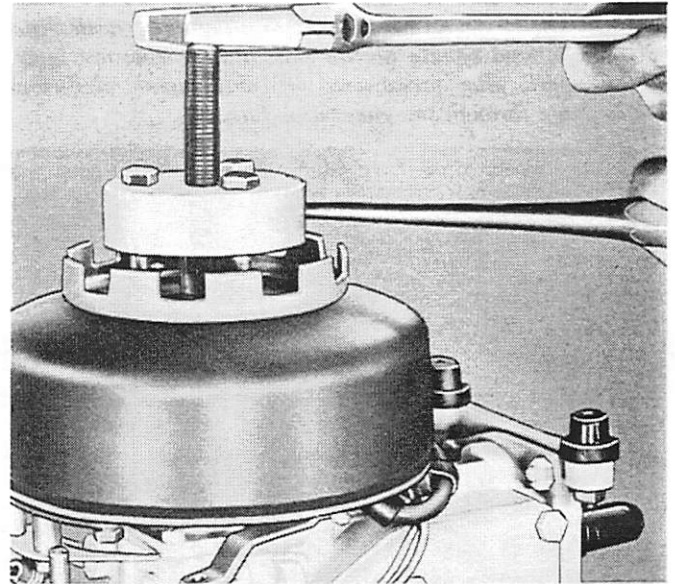

Figure 20. Pulling Flywheel
3. Turn 3 screws into tapped holes in top of flywheel, so that it sets evenly above flywheel, and draw down on center screw. Tap screw with hammer, if flywheel is exceptionally tight. (Figure 20)